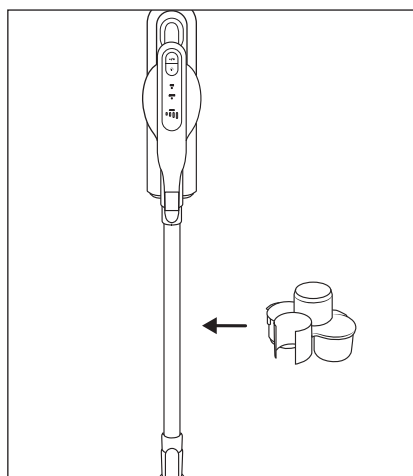

Fig. 19
- ◆ Attach the accessories holder **17** to the suction pipe **24** (see Fig. 19).